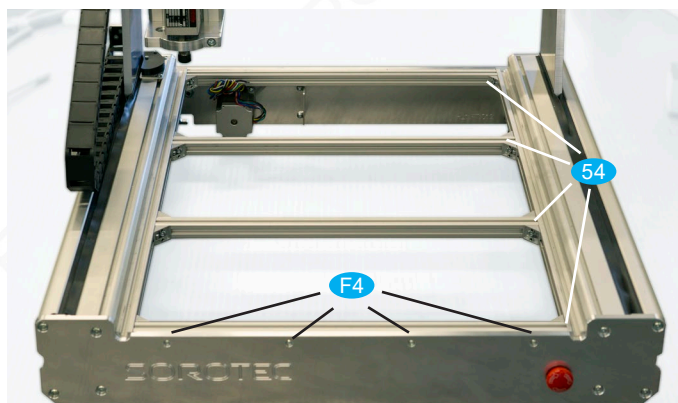

Fig. 39: The finished base for the table top. The number of screws in the face plate depends on the width of the machine.
- Screw a table profile **54** mit with flat head screws **F4** and hammer nuts **H1** from the inside to the front and rear face plate, as shown in Fig. 39.